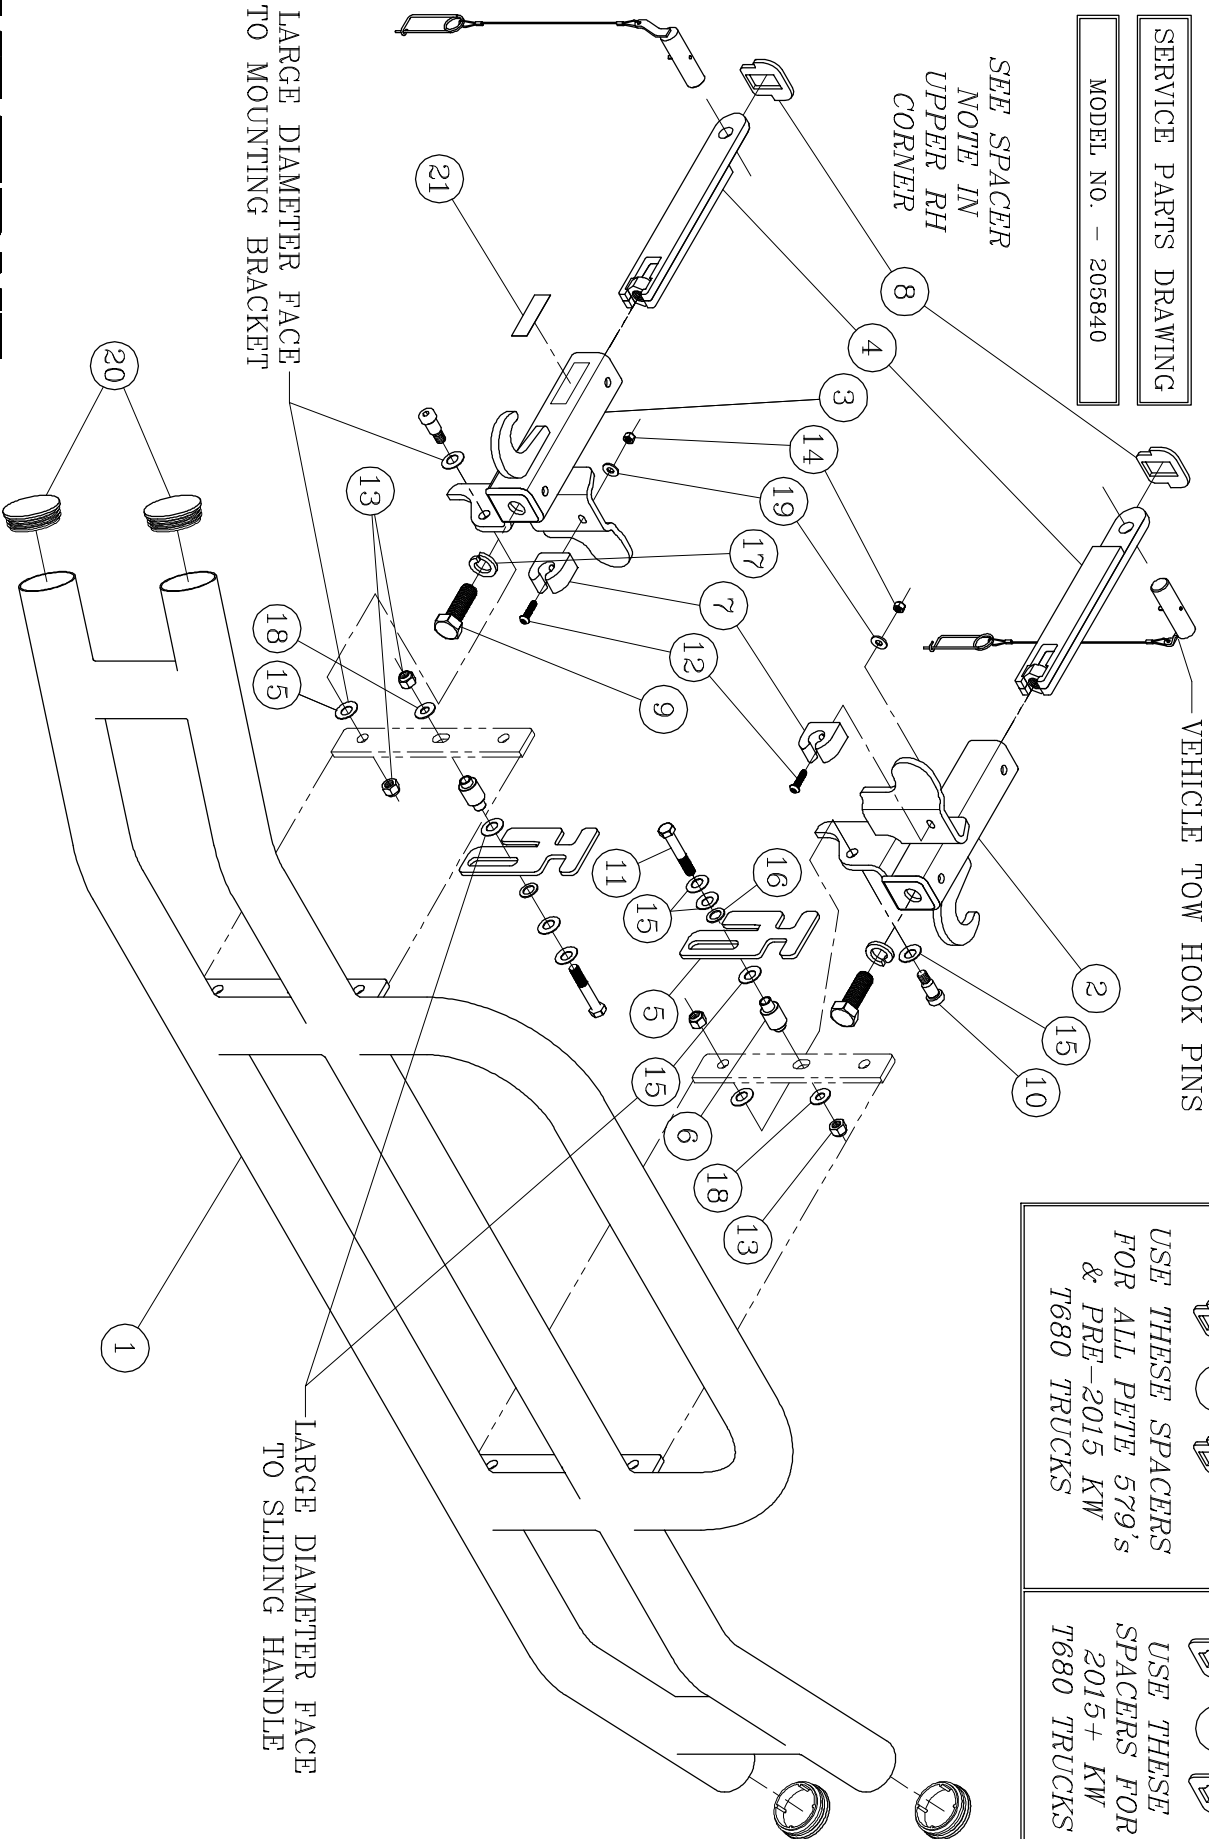

fig. 1
3. USING THE 5/16"-18 X 1-1/4" BUTTON HEAD SCREWS (ITEM #12), 5/16" FLAT WASHERS (ITEM #19), AND 5/16"-18 NYLOCK NUTS (ITEM #14), ATTACH THE RUBBER STOPS (ITEM #7) TO THE MOUNTING BRACKETS AS SHOWN IN FIG 1.